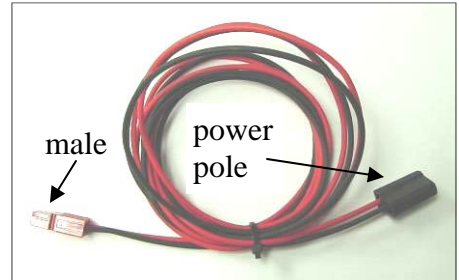

Fig. 2.2 Wiper Harness
- 2.2 Insert the male electrical connector on the wiper harness (see fig. 2.2) into the female electrical connector on the wiper motor.
- 2.6 Connect power pole quick connectors together on the wiper and chassis harnesses (see figures 2.2 and 2.4).